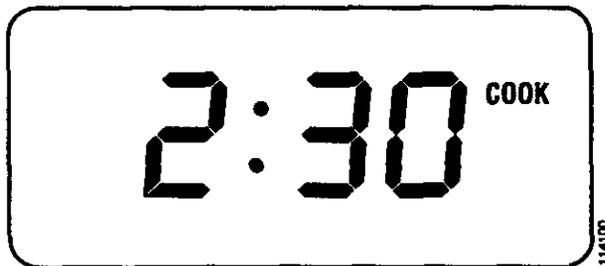

Figure 9.
6. Depress **Cook Time** button, a "beep" will sound and the display will show **SET-COOK-TIME** on the right hand side of the display, as shown in Figure 9.
8. After the cook time has been set a "beep" will sound and the indicator word **COOK** will appear in the display and the oven will begin heating. Figure 9 shows what the display would look like at this time if a cooking time of 2 hours and 30 minutes had been set.